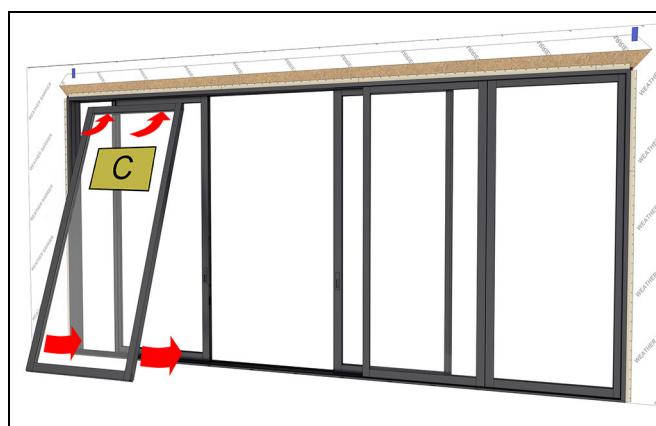
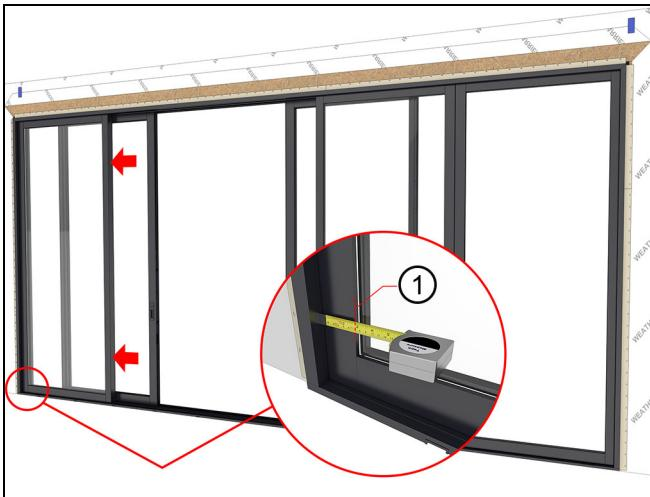

Figure 140
Figure 141
12. Install the (C-L) stationary panel onto the exterior track, slide the panel tight against the stationary jamb. The measurement from the inside of the exterior frame to the edge of the daylight opening should be $2\frac{5}{8}$ " when the panel is fully seated inside the jamb. See Figure 140 and Figure 141.